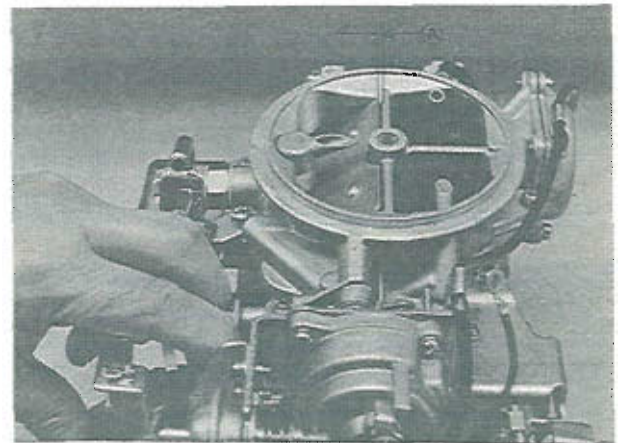

Fig. 4-10 Checking choke valve clearance
Remove the air cleaner cover. Pull out the choke control knob fully and check the clearance (A) shown in Fig. 4-10 by using a wire gauge or suitable gauge.